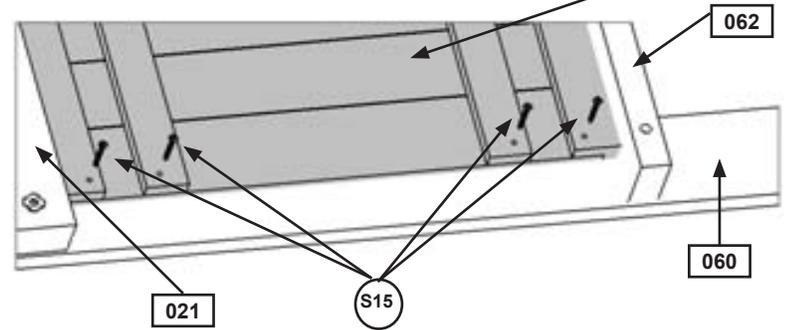

Fig. 7.3
B: Tighten the Large Corner Gusset bolts from Step 5 on the front side of the assembly and the bolts in (060) Ground Front from Step 6. (fig. 7.3)
C: Make sure assembly is square then in the remaining holes on (060) Ground Front pre-drill using a 1/8" drill bit and attach 2 (LS6) 5/16 x 3" Lag Screws (with flat washer). (fig. 7.3)